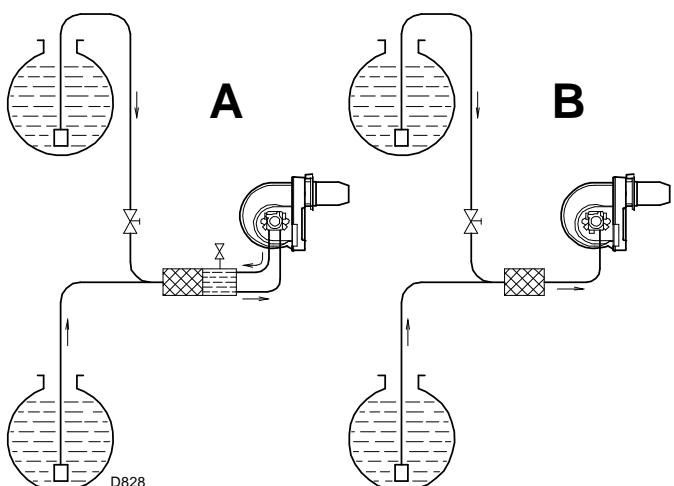

Fig. 16
- Pump external by-pass (**A**, Fig. 16) (recommended)
- Pump internal by-pass (**B**, Fig. 16)